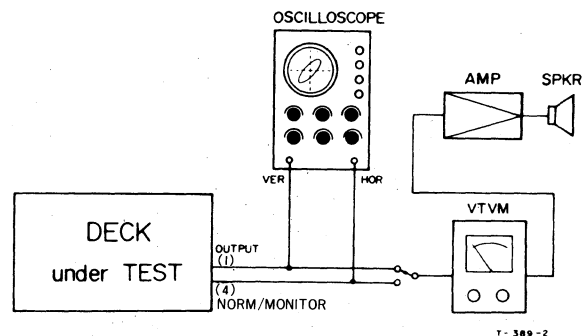

Fig. 4-17 Head Alignment Fine Adj. Set-up and Test Connections (Reproduce)
6. Connect an oscilloscope to the OUTPUT 1 and OUTPUT 4 pin jacks as shown in Fig. 4-17.